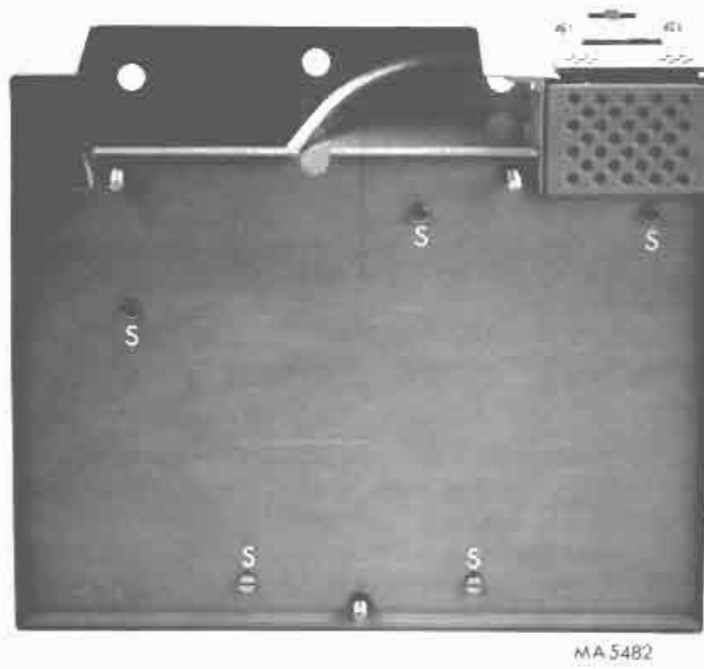

Fig. 15. View of battery case.
- Remove the 5 screws S (Fig. 15).